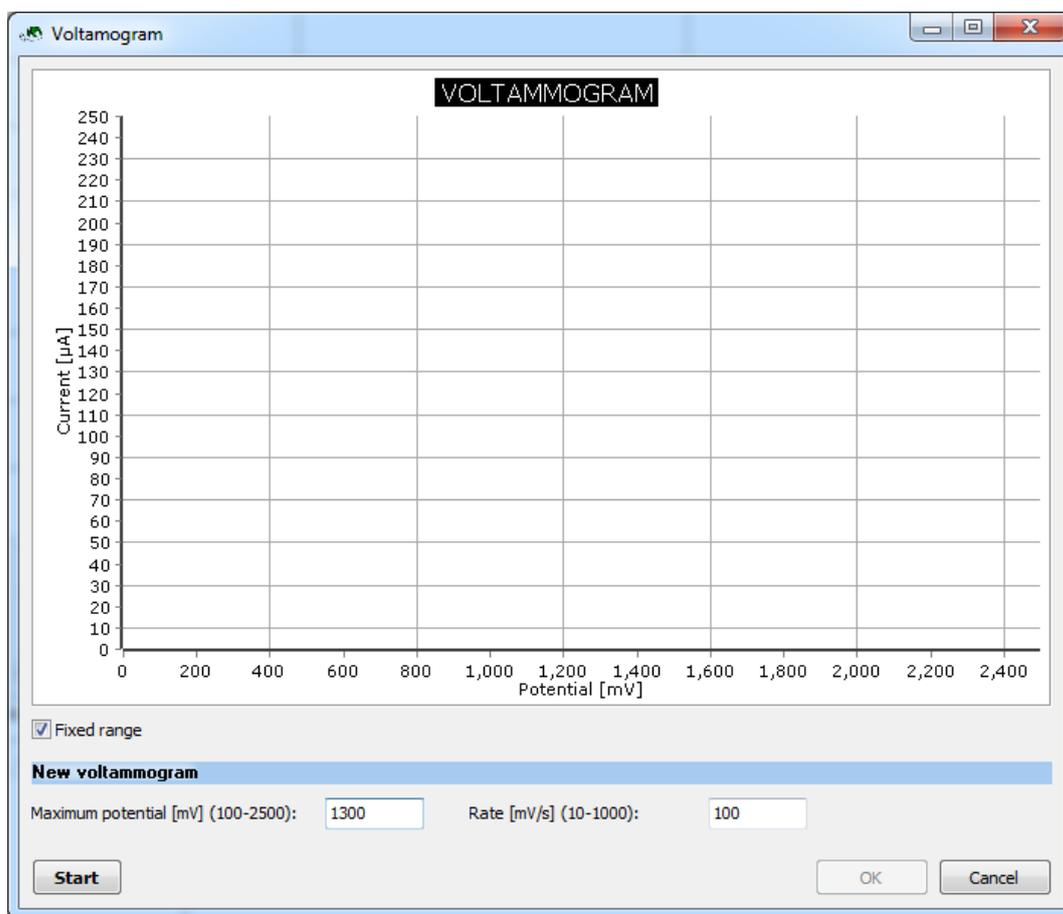

Figure 4: Dialog Voltammogram
6. Measure blank pressing *Start* button. Dialog Voltammogram (Fig. 4) opens. Set maximum potential 1300 mV, scan rate 100 mV/s. Press *Start*.